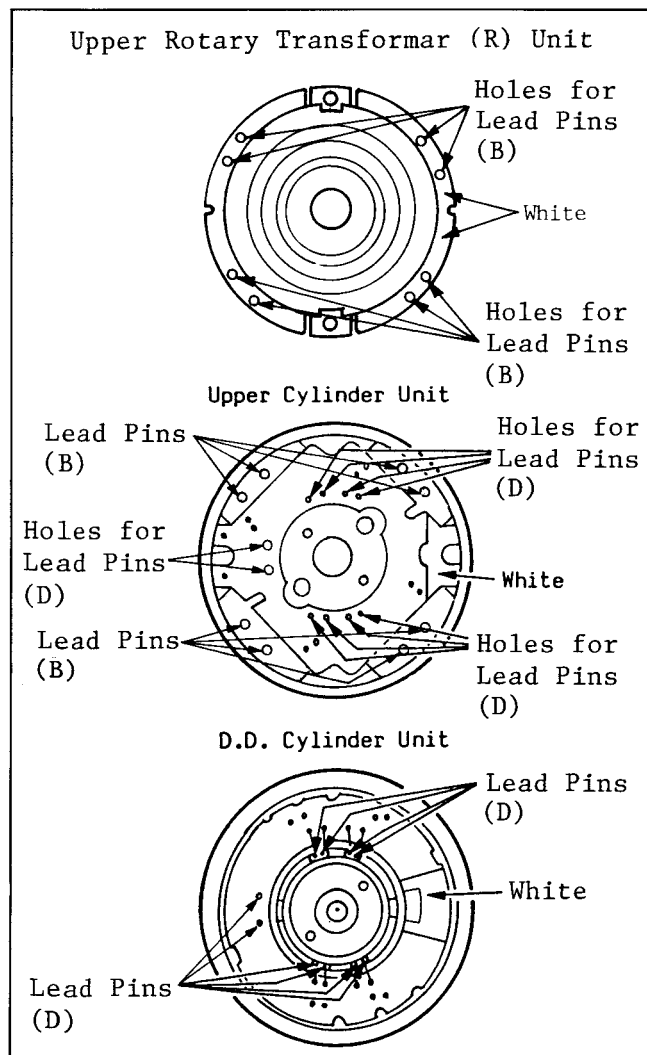

Fig. M5
- (1) Install the new Upper Cylinder Unit carefully so that the white portion of D.D. Cylinder Unit is properly aligned with white portion of Upper Cylinder Unit. For details on the installation position, refer to Fig. M5.
- (2) Tighten the 2 screws (E) and solder 10 Lead Pins (D).